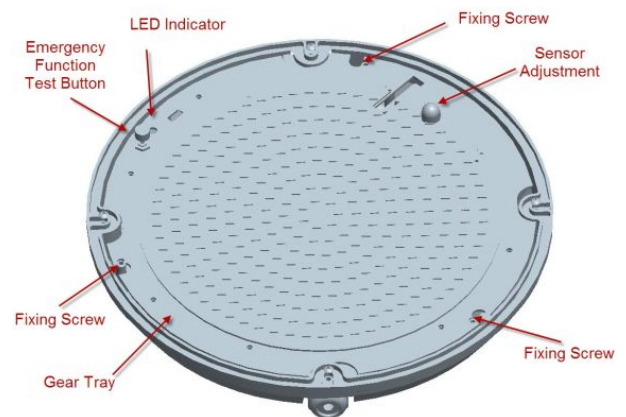

Fig1
- Unscrew the 3 fixing screws (**see Fig 1**) to remove the LED
• **Emergency function test button**, (see Fig 1) after installation with the mains supply on, push the test button to test the emergency function, if the LED brightness is reduced to emergency brightness (30% of full brightness), the function is working.